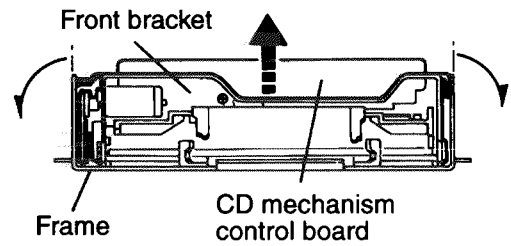
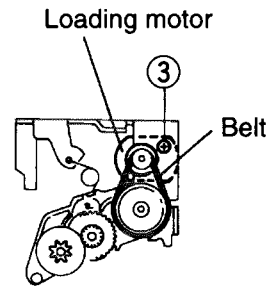

Fig. 14
Fig. 15
**CAUTION:**Remove the front bracket from the frame while expanding both sides of the frame as shown in Fig.14
1. Remove the belt from the loading motor (See Fig. 14 and Fig. 15)
2. Remove the one screw ③ retaining the loading motor (See Fig. 15)